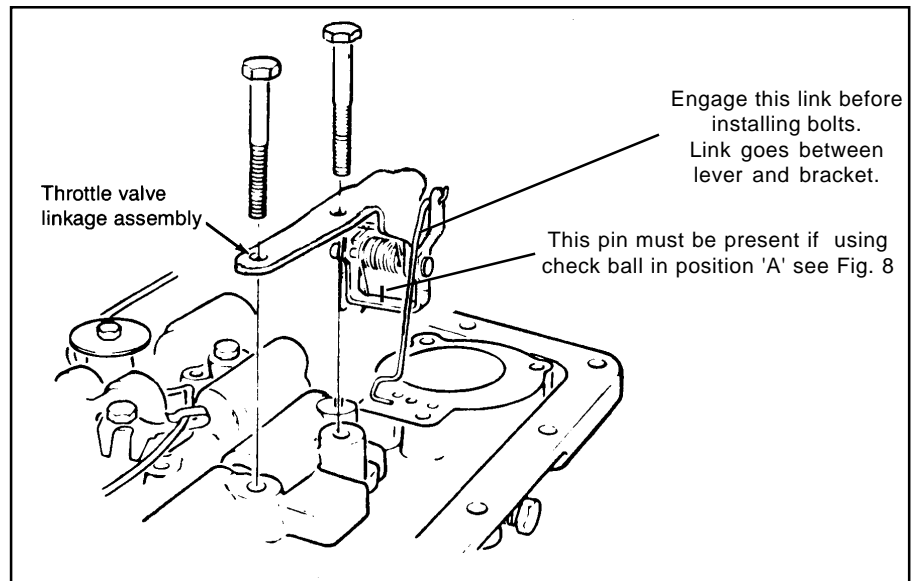

Figure 12
**STEP 16. Street Only;** Remove the spring and piston from the 1-2 accumulator housing (See Fig. 12.) Install both the **BLUE** and the **RED** spacers over the pin, then the piston (notice orientation.) No spring is used for **Street** level performance.
**STEP 20.** Install the throttle valve (TV) linkage onto the valve body as shown (**See Fig. 12.**) Engage the cable link with the large lever first. Hold the large lever up and the smaller one down. Then slip the assembly into position aligning it with the hold down bolt holes and engage the roll pin in the slot on the bracket. Insert bolts and tighten to 11 NM (8 Lb. Ft.) then make sure large lever operates freely. **IMPORTANT:** The TV cable **MUST** be reset before operating vehicle refer to step 24.